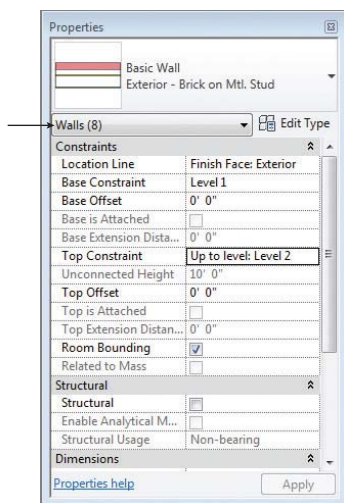

FIGURE 1.18 The number of selected items can be seen in the Properties palette.
5. Hover the mouse pointer over one of the walls. Press the Tab key once. The status bar should indicate “Chain of walls or lines.” Click to select the chain of walls. You should see an indication in the Properties palette that eight walls have been selected, as shown in Figure 1.18.